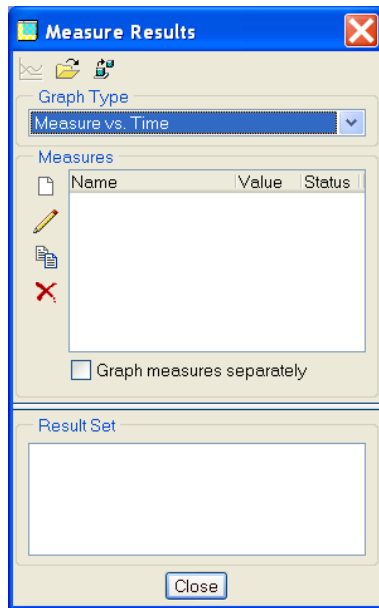

Figure 8
- d) Select **Analysis > Measures** or click . The **Measure Results** dialog box opens as shown in figure 8.